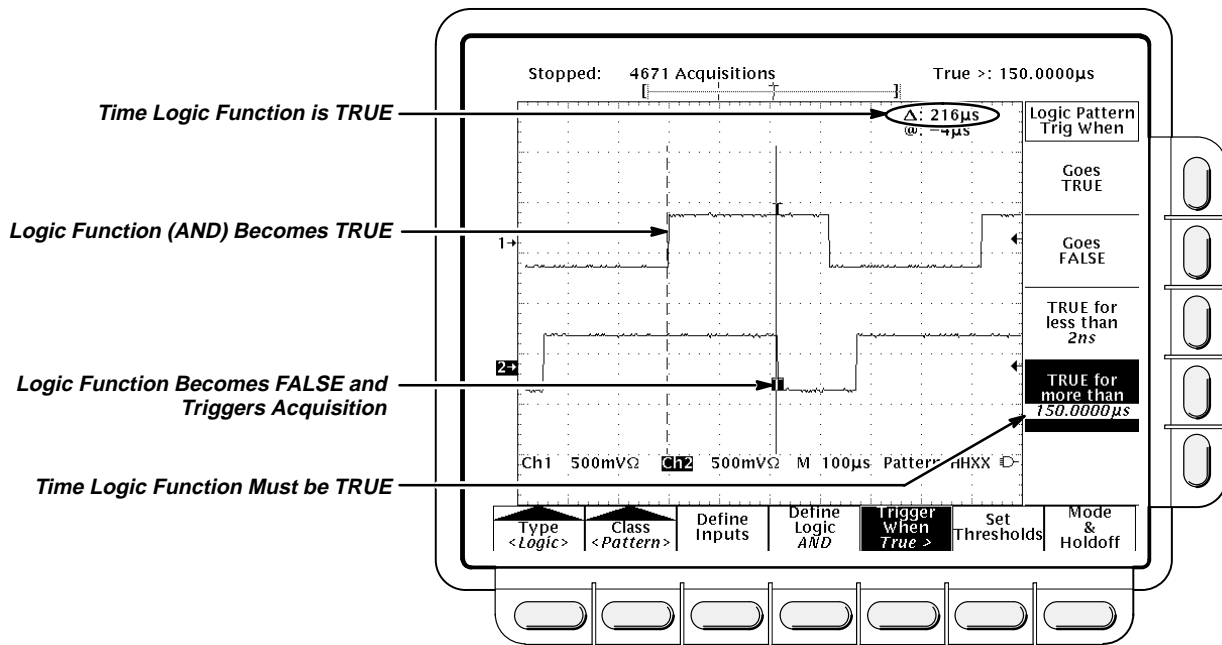

Figure 3-44: Logic Trigger Menu — Time Qualified TRUE
Note the position of the trigger indicator in Figure 3-44. Triggering occurs at the point the logic function you specify is determined to be true within the time you specify. The digitizing oscilloscope determines the trigger point in the following manner:
In Figure 3-44, the delay between the vertical bar cursors is the time the logic function is TRUE. Since this time is more (216 μ s) than that set in the **True for more than** menu item (150 μ s), the oscilloscope issues the trigger at that point, not at the point at which it has been true for 216 μ s.